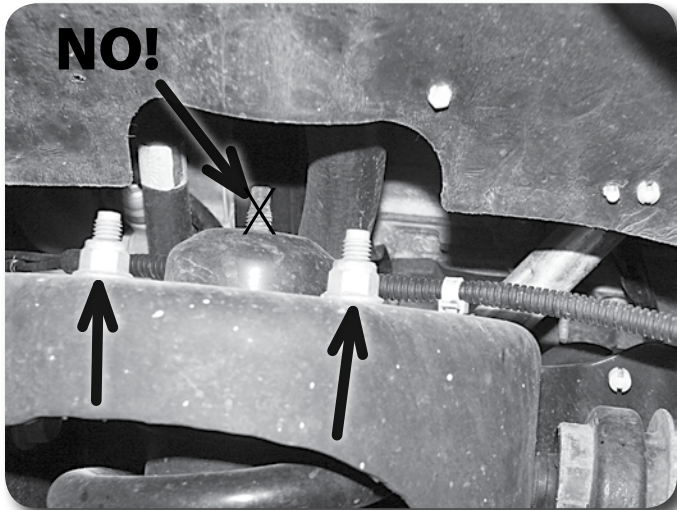

Figure 9
14. Loosen but do not remove the three strut assembly mounting nuts at the frame **Figure 9**. Do not loosen the middle strut nut.